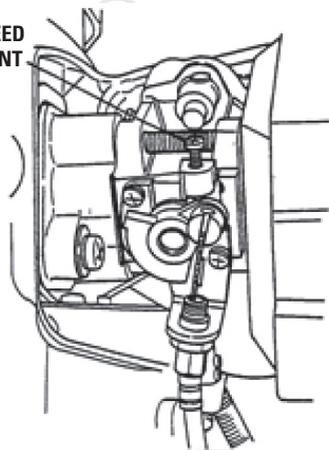

FIG.18
7. (FIG. 18) Carburetor Idle Adjustment - The carburetor has been pre-adjusted at the factory and normally will not require further adjustment. If the engine does not run smoothly at idle speed, first clean the air cleaner element, fuel filter and check fuel lines. If they are okay, adjust the carburetor as follows.
- b) Turn the idle speed adjustment screw (1) clockwise or counterclockwise (clockwise increases engine speed, counterclockwise decreases engine speed) to achieve the correct idling speed. NOTE: If the engine speed is too high, the tines will rotate. If the engine speed is too low, the engine will stall.